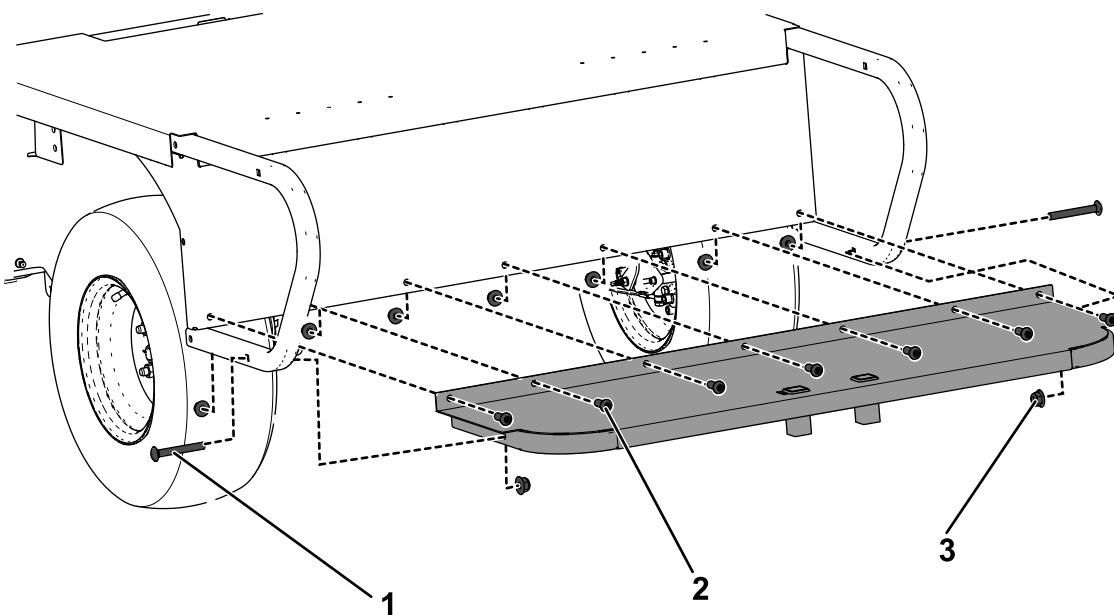

**Figure 6**
1. Install the flatbed onto the frame of the machine using the 2 pivot bolts (1/2 x 4-1/2 inches), 2 locknuts (1/2 inch), 2 flange-head screws (3/8 x 2-1/2 inches), and 2 nuts (3/8 inch) previously removed in steps 5 and 7 of Removing the Plastic Cargo Bed \(page 3\). Refer to Figure 6.